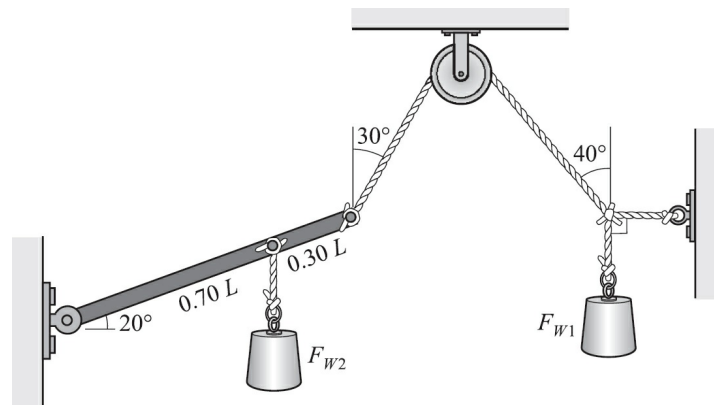

Fig. 5-24
5.34 [III] The beam in Fig. 5-24 has negligible weight. If the system hangs in equilibrium when $F_{W1} = 500$ N, what is the value of F_{W2} ?